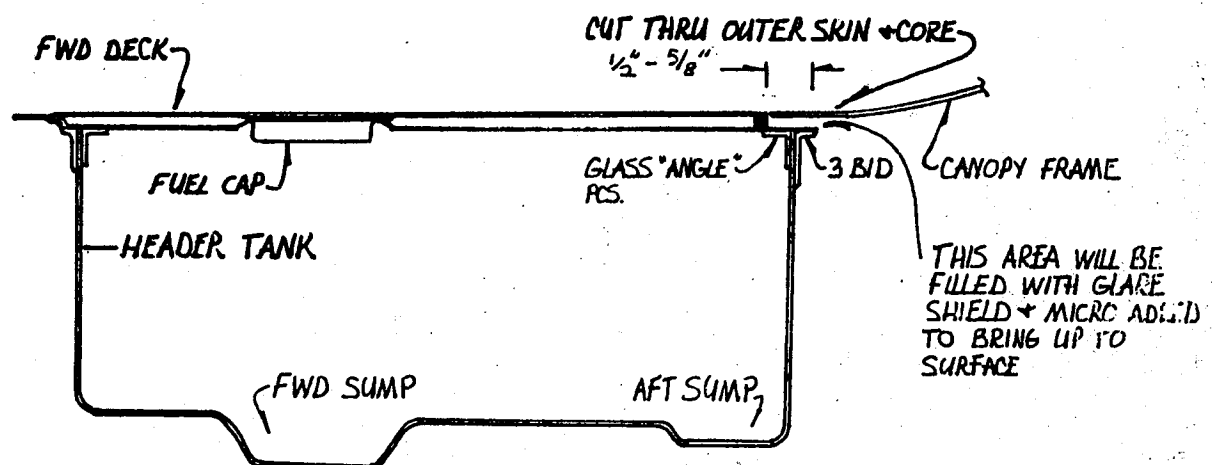

fig.233
4. Using the canopy frame as a guide, transfer the trim line onto the fwd deck and cut through the fwd deck outer skin and core material but NOT THROUGH THE FWD DECK INNER SKIN, see fig.233. Scrape away all the outer skin and core material aft of the trim line. The canopy frame should now be able to drop down into the newly created joggle. (It will drop down too far for now but that will be fixed later.)